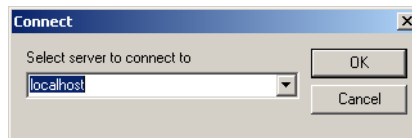

Figure 2-46 Connect dialog
2. At the connection prompt in the **Connect** dialog, enter the IP address of the VMS Server and click on the **OK** button (figure 2-46).